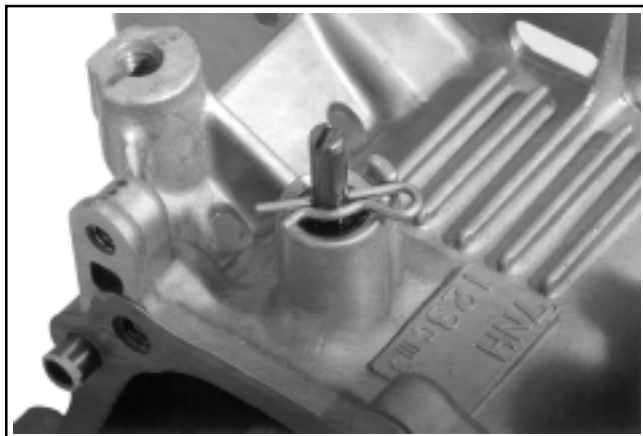

Figure 11-6. CS4, CS6. Installing Hitch Pin.
3. Install the second flat washer onto the shaft. Position the shaft so the lower flat section faces to the right (3 o'clock position) and insert the hitch pin so the end of the clip comes in contact with the raised section of the housing boss, limiting the inward movement of the arm. See Figures 11-6 and 11-7.